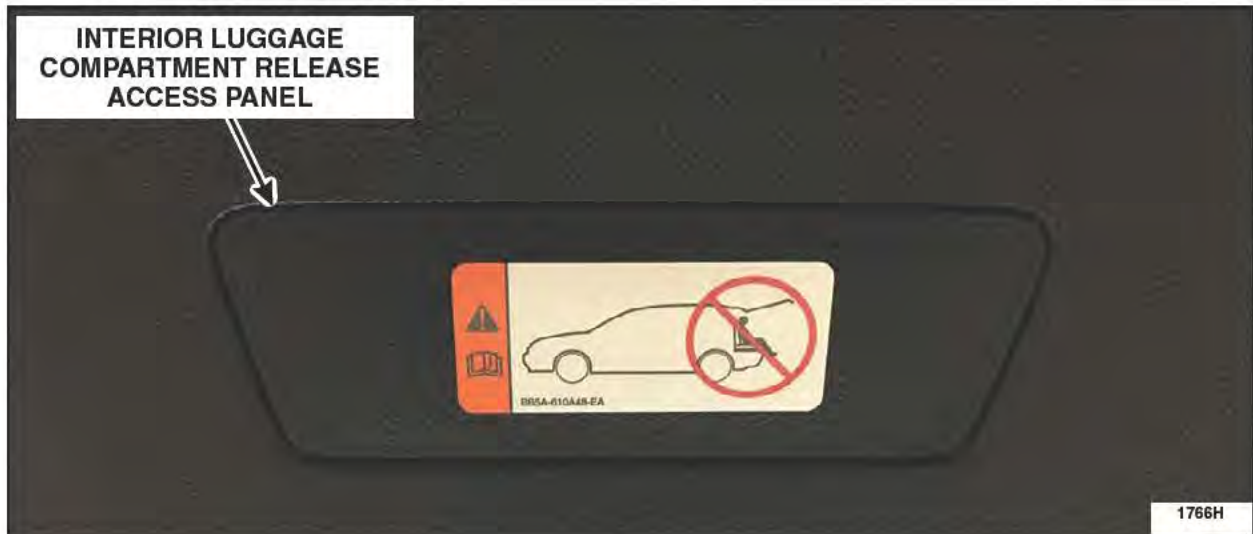

FIGURE 24
12. Ensure the interior luggage compartment release access panel is properly installed in the lower liftgate trim panel. See Figure 24.